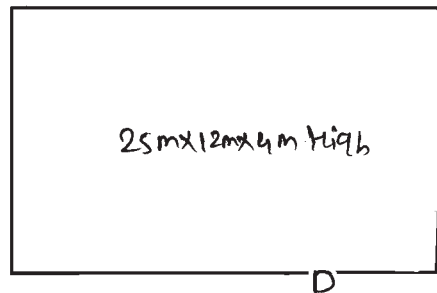

Fig. No. 2
- a) The plan of a large hall for use as a tutorial hall for the polytechnic students is given in Fig. No. 2. The room is required to be provided with electrical wiring in batton system. Mark the location of MB, SB and electrical points on the plan of the hall using electrical symbols. Also decide the rating of MS, DB and other important materials and draw single line diagram.